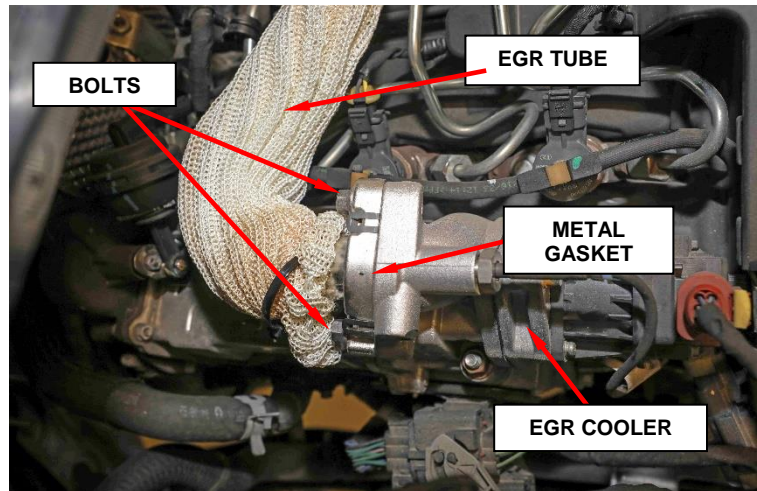

Figure 14 – EGR Tube
13. Remove the EGR tube bolts (2) at the EGR cooler (Figure 14).